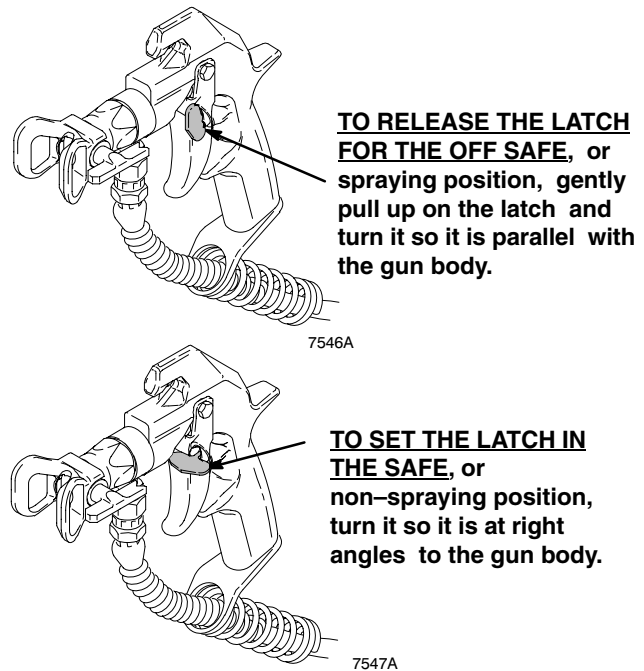

Fig. 1
3. Set the trigger safety latch. See Fig. 1.
1. Set the trigger safety latch. See Fig. 1.
9. Release the trigger and set the trigger safety latch. See Fig. 1.